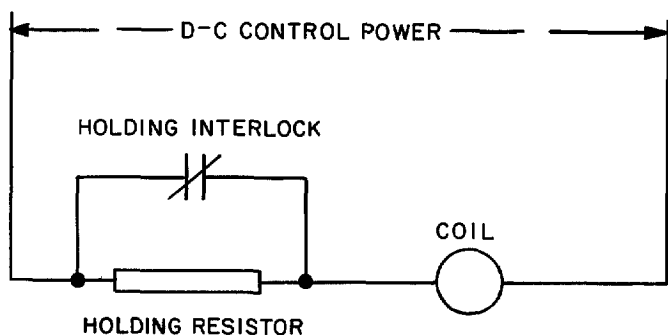

Figure 13. Dc connections to contactor coil.
- When a dc coil is used (see Figure 13), a normally closed contact on the outside right interlock must be used to insert the holding resistor. Adjust the jam nut and spacer on the operating arm plunger so that when the contactor is energized, the normally closed contact will have a gap of 1/16 inch.
Dc control power should be connected to the dc magnet in accordance with Figure 13. The contactor will operate satisfactorily with 80 percent to 110 percent of rated voltage. Voltages outside these limits should not be used for the reasons mentioned previously. The dc coils are intermittent-rated and require a holding resistor as shown in Figure 13. The holding interlock must be made available as explained under ELECTRICAL INTERLOCKS.